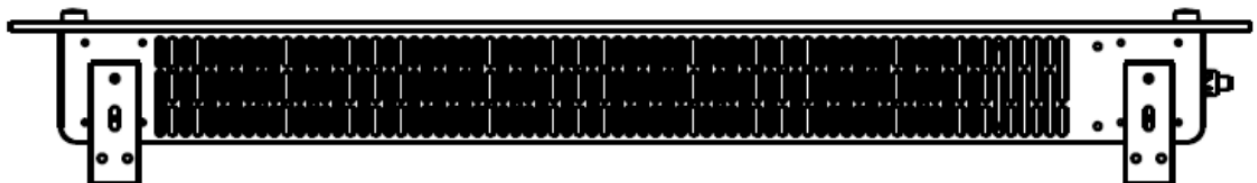

Fig.3
- 3. Securely fix the two brackets to the bottom of the product with foot fixing screws (pre-drilled screw holes are already provided on both sides of the air inlet). These brackets are designed to maintain a certain distance between the bottom of the machine and the wall when it is wall-mounted., as depicted in the picture below Fig 3.